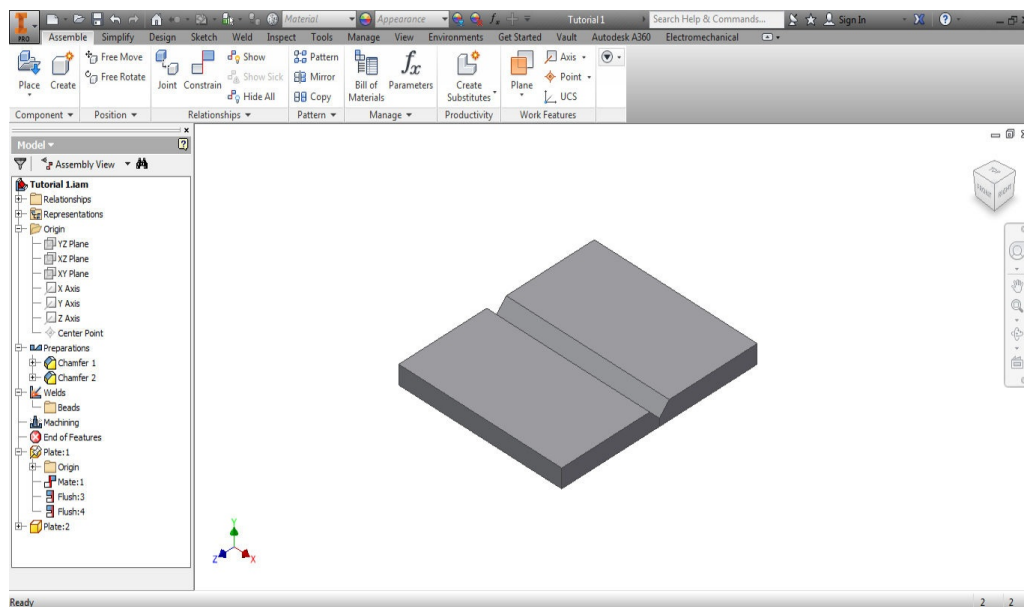

Figure 16-22 Weldment after assembling the two plates
1. Apply multiple instances of the **Mate** constraint to the two instances of the plate and assemble them. The assembly of the two plates is shown in Figure 16-22.